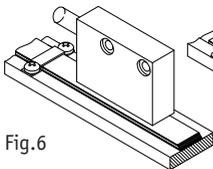

Fig. 6
**Indication:** A non-magnetic fastening lug or cover plate can be used for securing the magnetic tape (see fig. 6 + 7). The max. admissible gap between tape and sensor must not be exceeded.